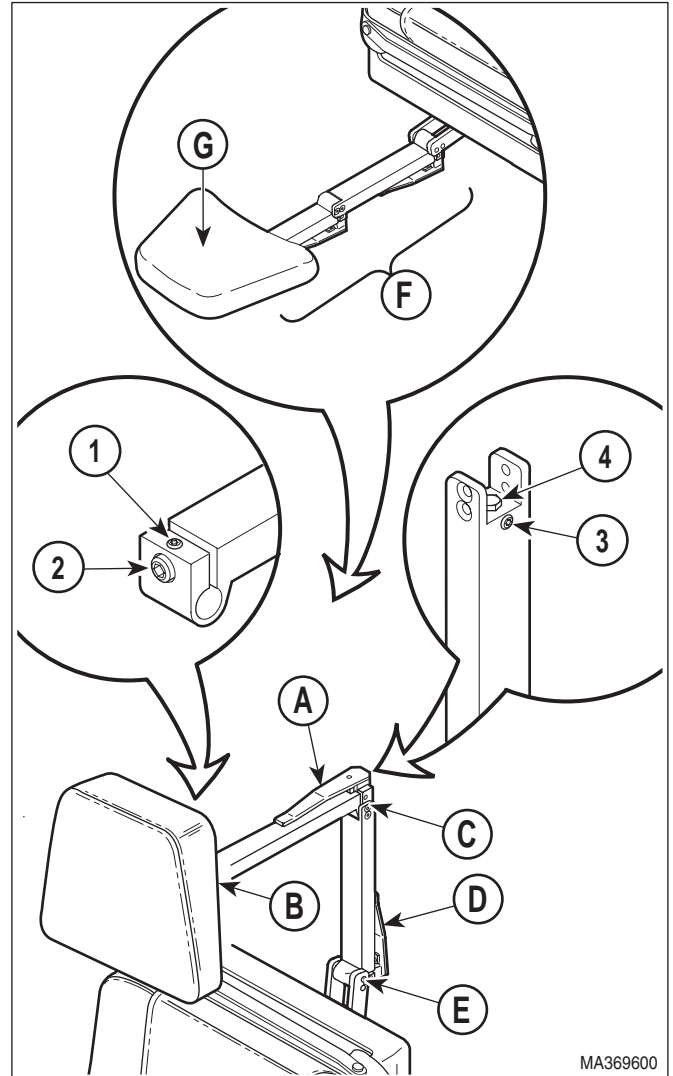

Figure 4-46. Headrest Adjustment
- (1) Unlock upper lock handle (A, Figure 4-46).
- (2) Loosen setscrew (1).
- (7) Tighten adjusting screw (4) slightly; then lock lower lock handle (D). Repeat this step until Axis (E) has the strongest possible holding power, but operation of lower lock handle (D) is not too difficult.
- (8) Tighten setscrew (3).
- (9) Lower BACK DOWN function all the way down.
- (10) Position headrest assembly (F) as shown in top bubble of Figure 4-46.